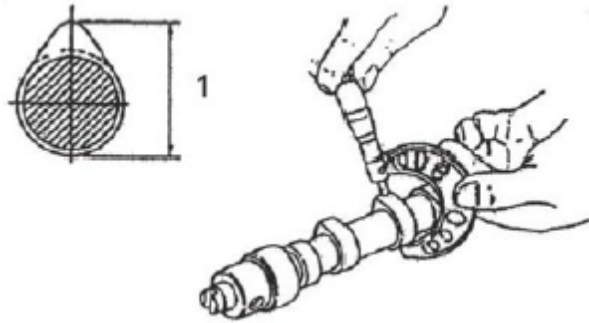

Figure 100.
3. Measure the height of each lobe (Figure 100, Item 1). See the *Camshaft Specifications Chart*.